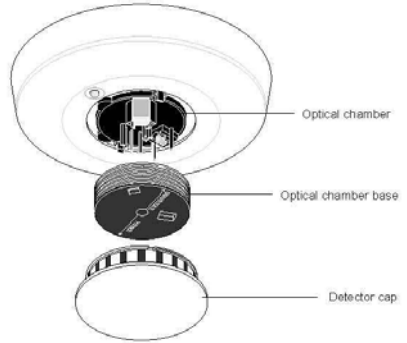

Figure 6: Alarm Parts
4. Press in on the sides of the smoke chamber and pull it up and away from the detector and discard. See Figure 6.